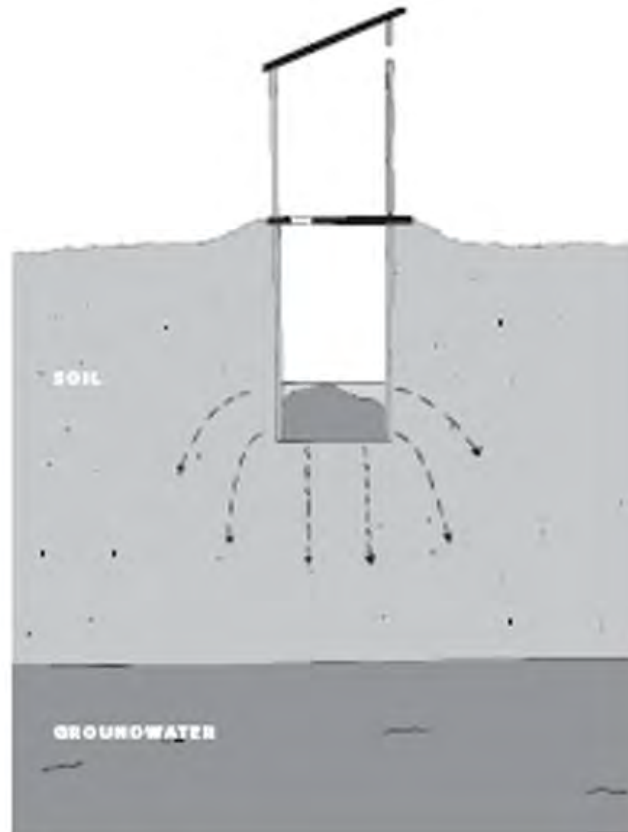

Figure 1. Latrine pit above water table
- Draw figures 1,2, and 3 on flipcharts